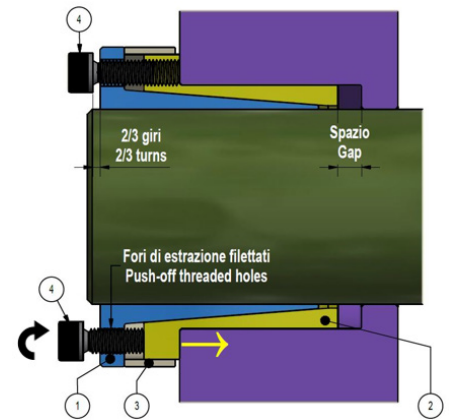

Fig. 2
2. For ease of installation, locking rings shall be disengaged (fig. 2). Loosen all screws by two/three turns; then transfer and hand-tighten at least two screws into the push-off threaded holes in the inner ring.
3. Insert Locking Assembly into the hub bore and make it slide onto the shaft, making sure that connected components are positioned as required. **Inner and outer rings shall be completely supported by shaft respectively hub bore (fig. 2).** At this point, relocate the screws used to disengage the locking rings. Installation into hubs with shoulder requires a few mm's gap between outer ring and shoulder (fig. 2).